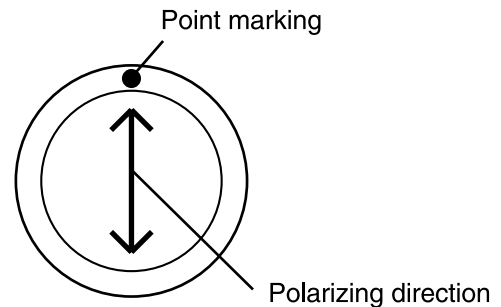

Fig. 9-18
① Set the sample piece a on the main prism. For detail of setting and lighting, refer to the procedure for glass, plastic and film samples. Since the polarizing eyepiece can be revolved, turn it to change the polarization direction. The polarization direction is indicated by the point marking as shown in Fig. 9-18.